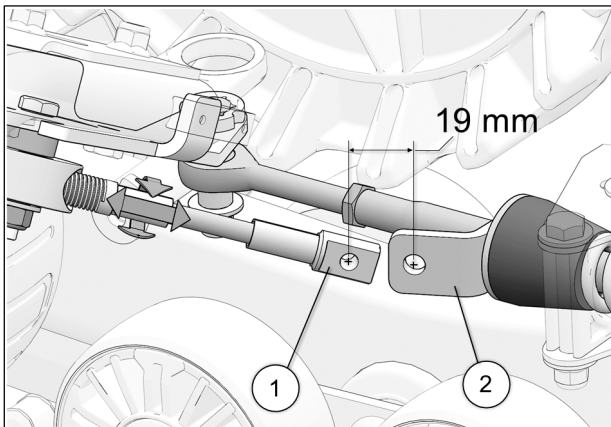

Fig. 27
15. Turn the vehicle's steering wheel to its maximum point of travel on the left. While maintaining pressure on the steering wheel, turn threaded rod to adjust length of cable. See Fig. 27
16. Position cable end hole (1) 19 mm [$\frac{3}{4}$ in.] short of support plate mounting hole (2). See Fig. 27